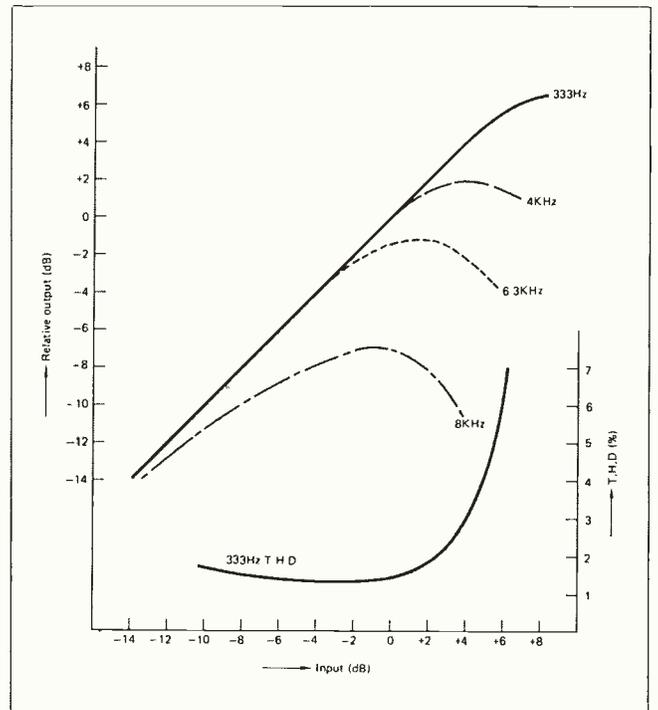

Fig. 5 Relative input and output distortion characteristics of cassette tapes
- 1) At low frequencies, if the recording level is raised, the distortion increases (see Figure 5).
Accordingly, as the frequency of the recording signal rises, the signal saturates in the lower level and characteristics of input and output are aggravated (see Figure 5).